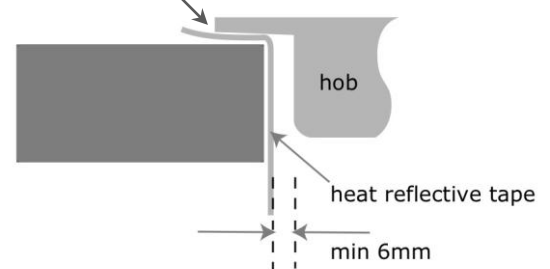

Fig. 9 Application of heat reflective tape
Hob Cut Out only: see Fig. 9
- Apply heat reflection tape around the entire cut out (Fig. 9), ensuring that it protrudes beyond the hob flange and is in contact with worksurface and hangs straight down, heat reflection tape is required for all hot cut outs. Apply a second piece of reflective tape to all corners to ensure adequate coverage.